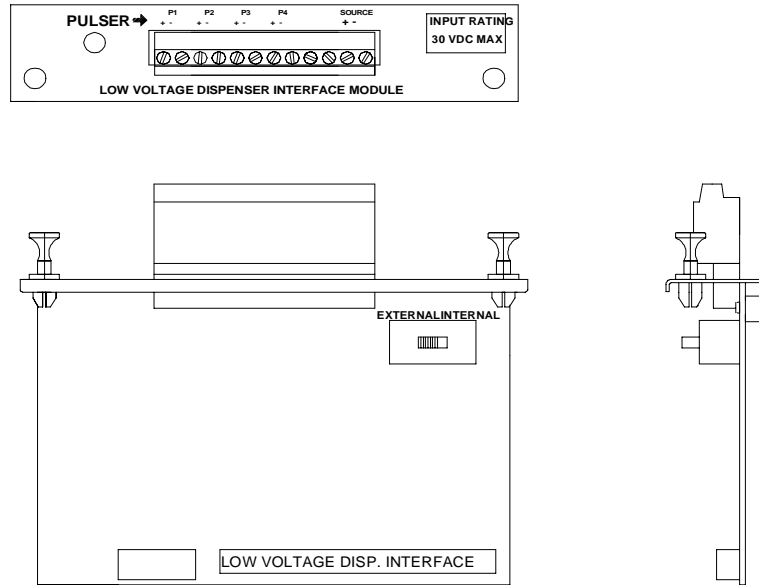

Figure 6. Illustration of LVDIM with SW1 in the EXTERNAL(left) Position
2. Locate Switch 1 (SW1) on LVDIM module. Be sure switch is in the “EXTERNAL” position. See Figure 6 on page 14.
1. Locate Switch 1 (SW1) on the Low Voltage Dispenser Interface Module (LVDIM). Be sure switch is in the “INTERNAL” position (see Figure 6 on page 14).